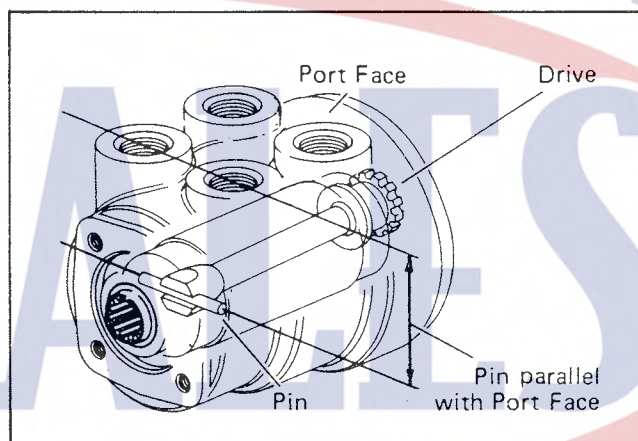

Figure 18:
14. Rotate spool and sleeve assembly until pin is parallel with port face (Figure 18). Install drive, make sure you engage drive with pin. To assure proper alignment, mark one of the two drive tooth slots that are parallel with slot in the end of drive (Figure 20, Ref. B, C).